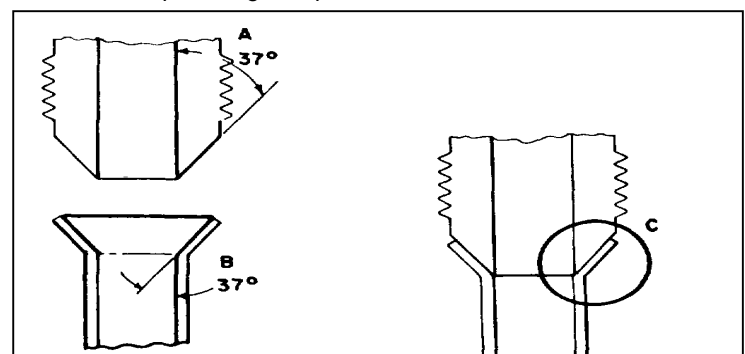

Fig. 2
- (e) Damaged or mismatched parts (see Fig. 2).
Representative types of re-useable tube fittings to be found in Link-Belt machinery, as follows: 37 Degree Flare: Three-piece fitting consisting of a body, nut and sleeve, requiring 370 tube flaring (see Fig. 2).